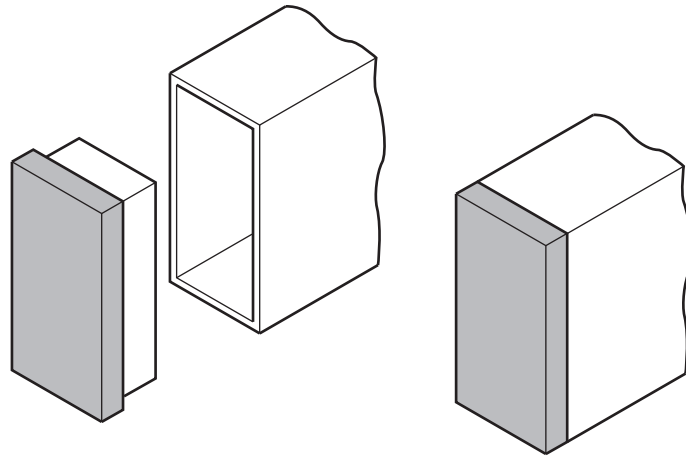

Fig. 12.4
- (e) Fig. 12.4 shows details of one of the plugs that will be inserted into the ends of the 50 × 25 mild steel tube. The plugs are made of hardwood.